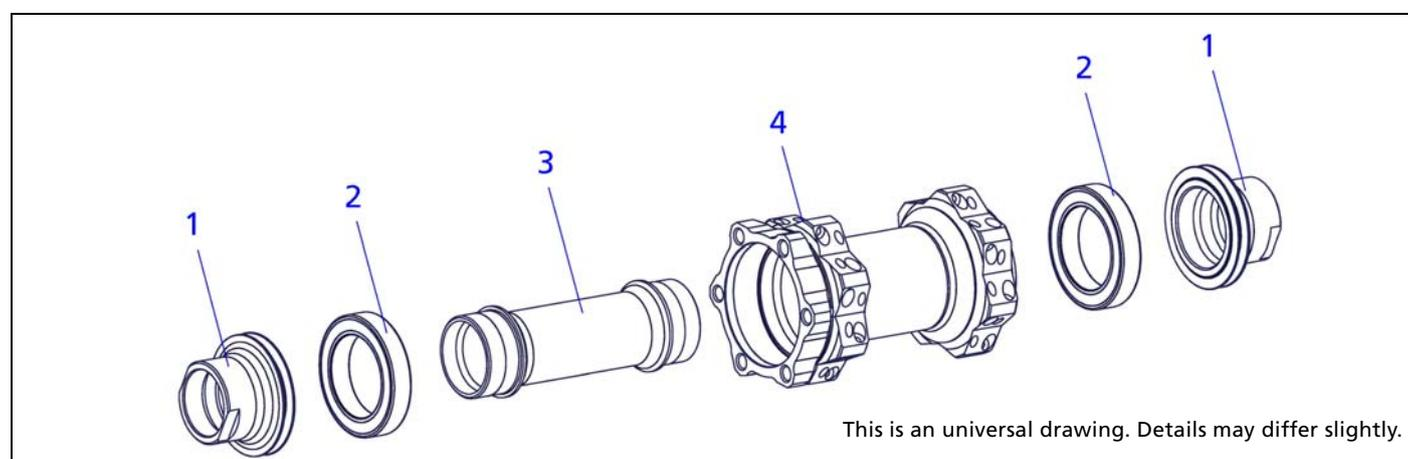

Figure 4-3: 240 Oversize
1. Loosen the adapter (fig. 4-3/1) using a wrench and remove it from the axle.
2. Slide the disassembly tool onto the axle (fig. 4-3/3).
3. Tap the bearing (fig. 4-3/2) and the axle out of the hub shell using the disassembly tool and a hammer.
8. Tap out the second bearing (fig. 4-3/2) using the disassembly tool and a hammer.
2. Put the axle (fig. 4-3/3) onto the mounting tool.
4. Slightly grease the bearing (fig. 4-3/2) and put it onto the disc side with the colored side facing outwards.
**10.** Slightly grease the bearing (fig. 4-3/2) and put it onto the non disc side.
- 1.** Grease the bearings and the inner surface of both adapters (fig. 4-3/1).
- 2.** Screw on both end caps (fig. 4-3/1) by hand.
- 3.** Tighten the adapter (fig. 4-3/1) with 15 Nm using a wrench.